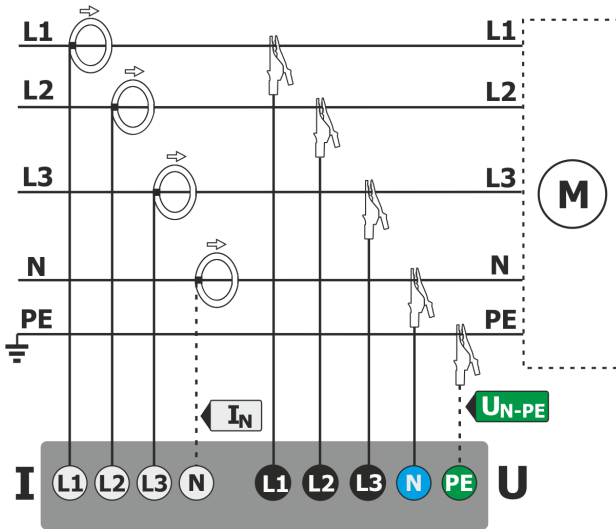

Fig. 60. Wiring diagram – 3-phase 4-wire, 3-phase 4-wire (no U L2) / 2 ½ element (no V L2/B) systems.
- 3-phase 4-wire, 3-phase 4-wire (no U L2) / 2 ½ element (no V L2/B) (Fig. 60),
*In order to correctly calculate total apparent power  $S_e$  and total Power Factor (PF) in a 4-wire 3-phase system, it is necessary to measure the current in the neutral conductor. Then it is necessary to activate option **N conductor current** and connect 4 probes, as shown in Fig. 60. More information on total apparent power  $S_e$  - see Power Quality Guide document.*